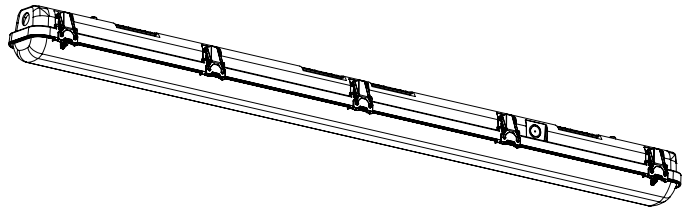

Fig. 5
7. Restore power to the luminaire (Fig. 5).